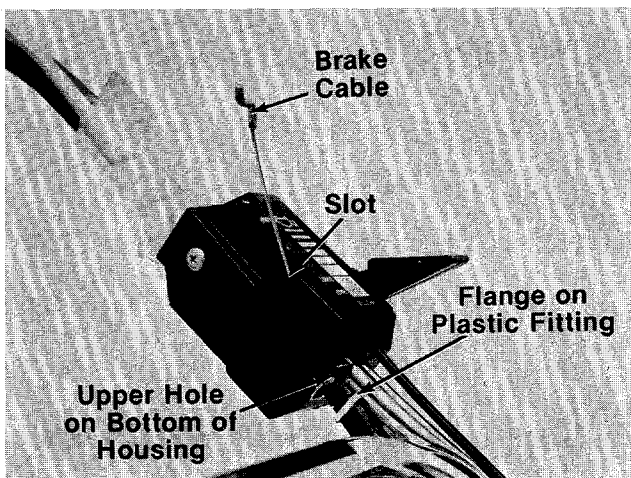

FIGURE 6.
8. Route the brake cable under the lower handle. Place the end of the brake cable into the upper hole on the bottom of the control housing, and through the slot in the side of the housing as shown in figure 6. The angle of the flange on the plastic fitting must be positioned downward as shown. Be careful not to bend or kink the cable.